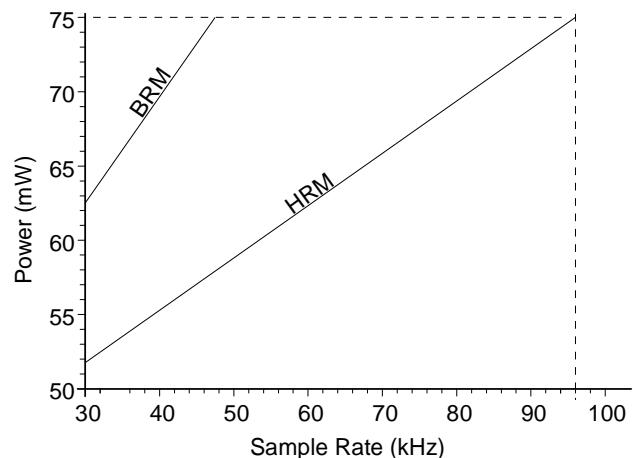

Figure 4. Power vs. Sample Rate
7. Refer to Figure 4. Max Power Dissipation is measured at VA=5.5V.